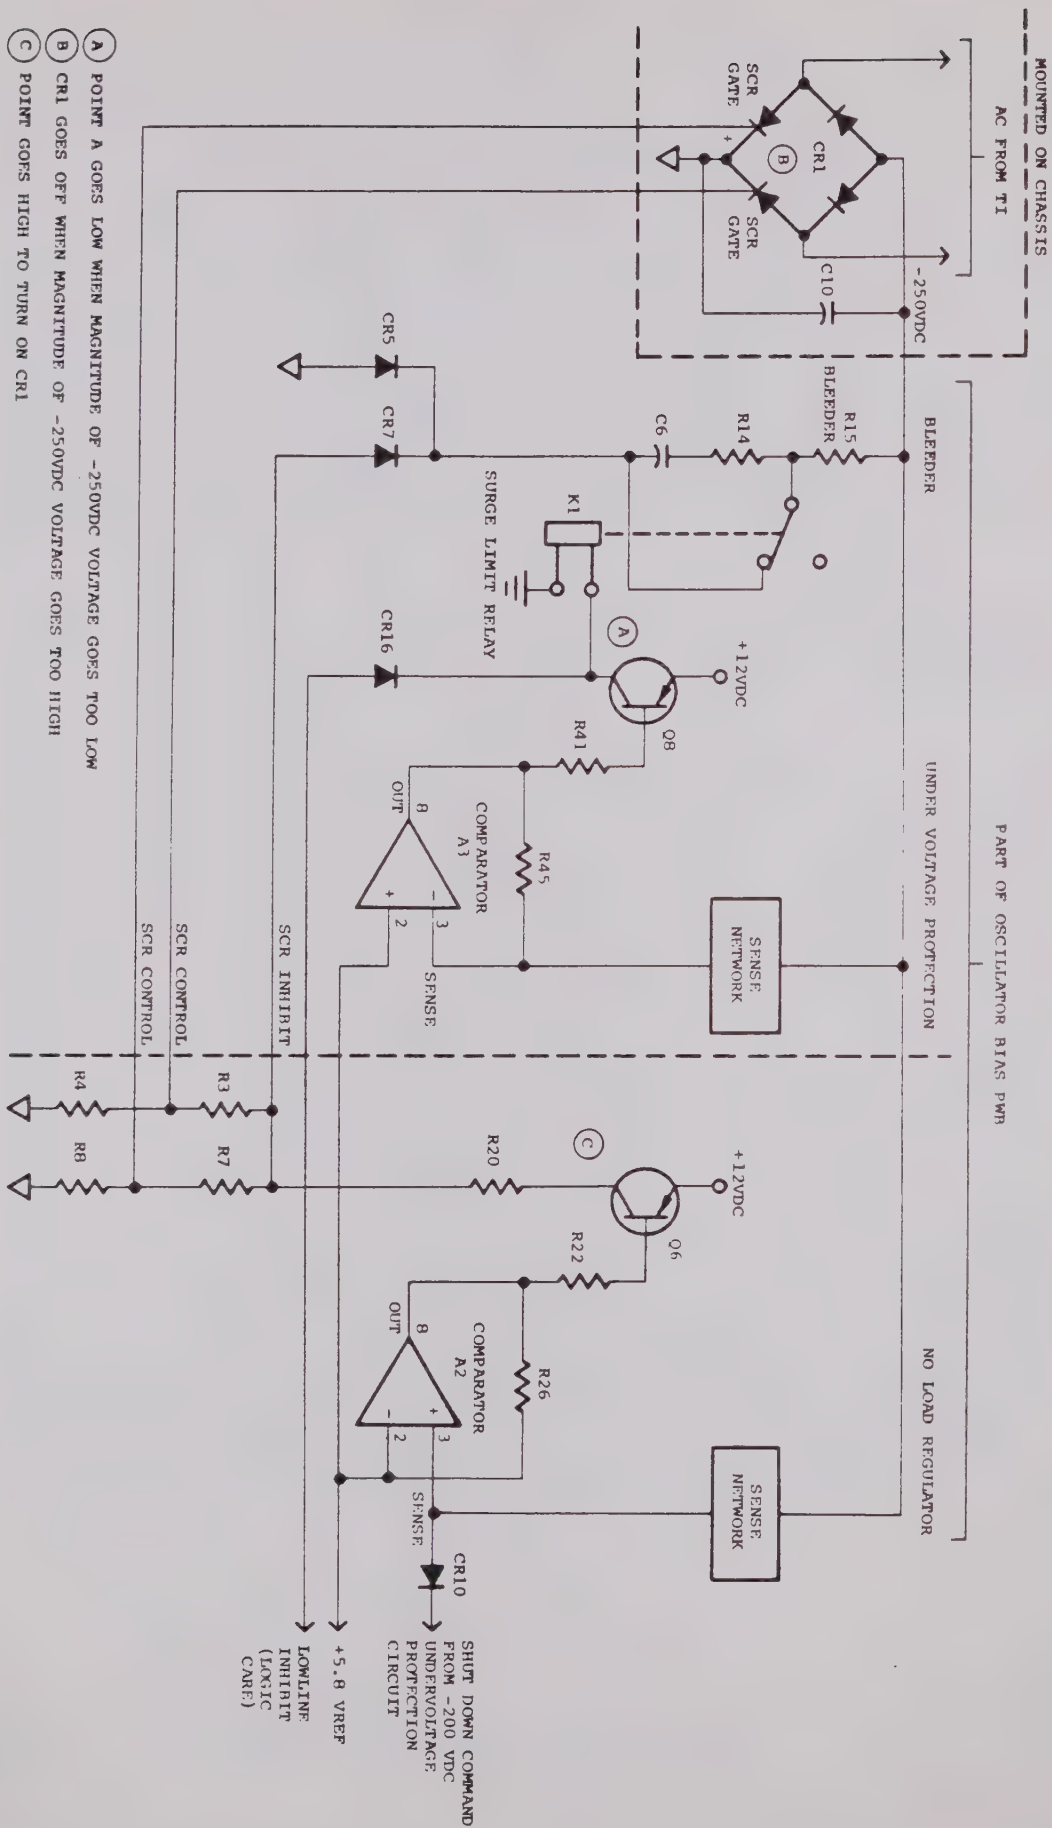

FIGURE 5-4 FUNCTIONAL BLOCK DIAGRAM -250VDC REGULATION AND PROTECTION
5.2.3.3 -250 VDC Regulation and Protection. The -250 VDC supply voltage generated by the power conditioning circuits is regulated to limit its magnitude to less than 300 volts and monitored to shut down if the magnitude falls below -160 volts. Circuit elements are also incorporated to discharge the -250 VDC filter capacitor (C1) whenever the power supply is turned-off and to inhibit surge currents in the primary of transformer T1 (See Figure 5-4). The over-voltage regulation and under-voltage protection circuits are very similar in that a comparator is used to control a transistor which controls an element that performs the desired function (See Figure 5-4).
Anytime Q8 is off, the low line inhibit is driven low via A3CR16. This line control High Voltage control latch U10D on logic PWB A1. This means that high voltage is turned-off and the surge resistor is enabled any time the magnitude of the DC input into the switch regulator falls below 160 VDC (See Figure 5-4).